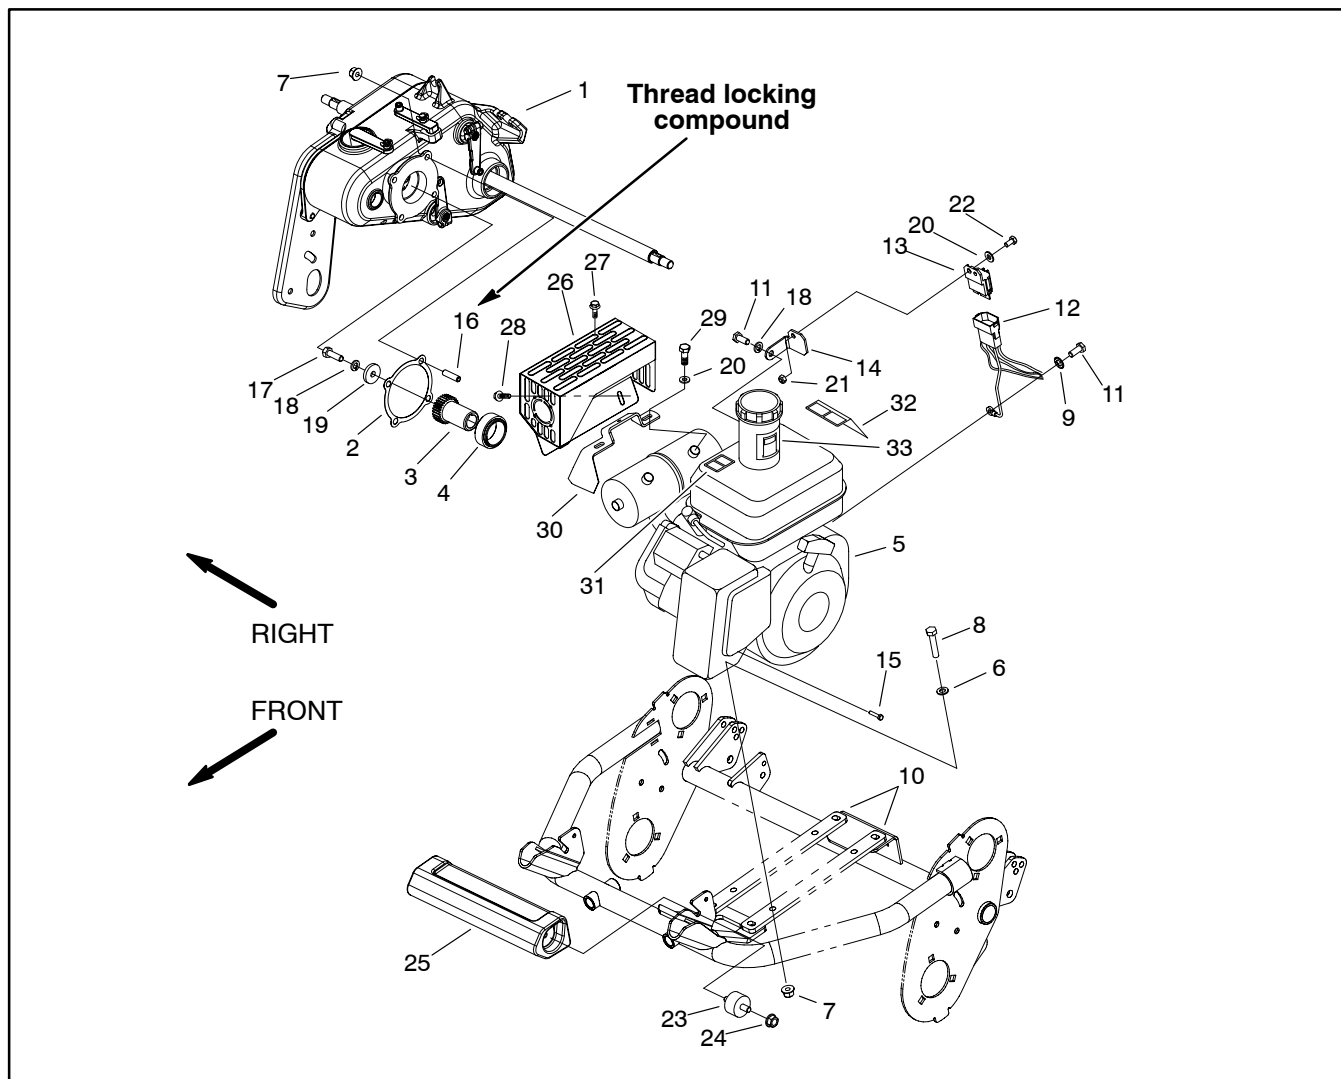

Figure 13
3. Reinstall engine to engine base (Fig. 13 and 16):